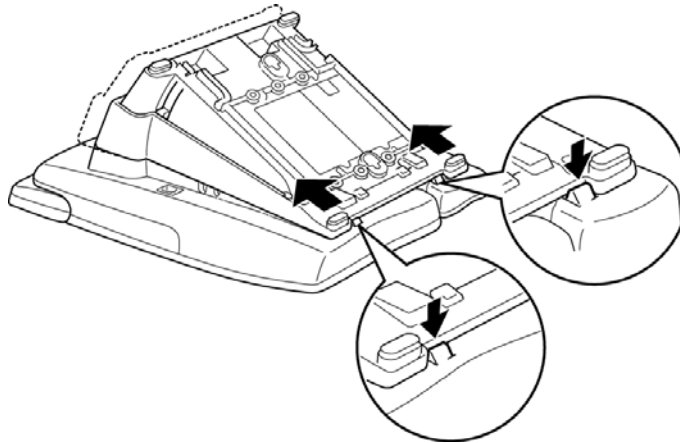

Figure 4-18: Removing Base Plate
2. Press the tabs as illustrated in *Figure 4-18: Removing Base Plate*, and slide the base cover in the direction of the arrows until it clicks.